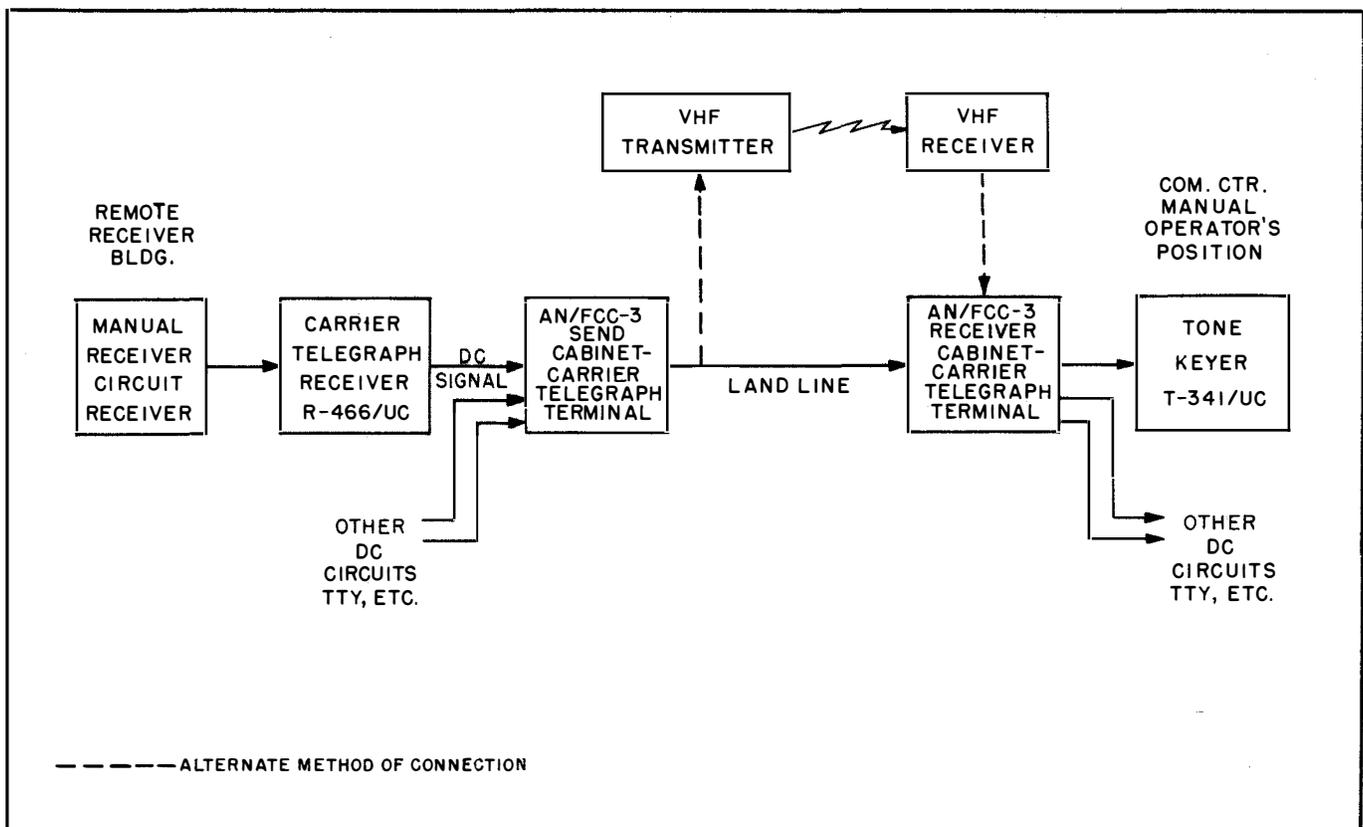

Figure 1-2. Receiver, Carrier Telegraph R-466/UC, Application
(1) 20 to 60 MA neutral telegraph loop with battery supplied from the Receiver.
(2) 20 to 60 MA neutral telegraph loop with battery supplied from the loop.
(3) 30 MA polar telegraph loop with battery supplied from the Receiver.
c. Figures 1-2 and 1-3 illustrate applications of the Receiver, Carrier Telegraph R-466/UC.